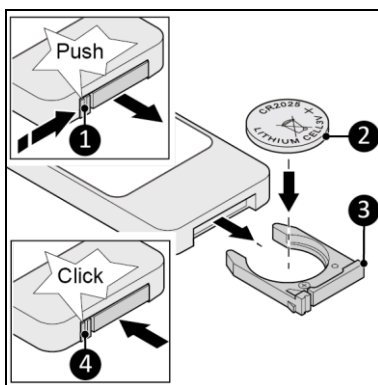

Figure 9
1. Press the tab (Figure 9, pos. 1) and remove the battery compartment (Figure 9, pos. 3) from the remote.
2. Correctly insert a CR2025 type battery as indicated (Figure 9, pos. 2).
3. Slide the battery compartment back until the tab clicks into place (Figure 9, pos. 4).